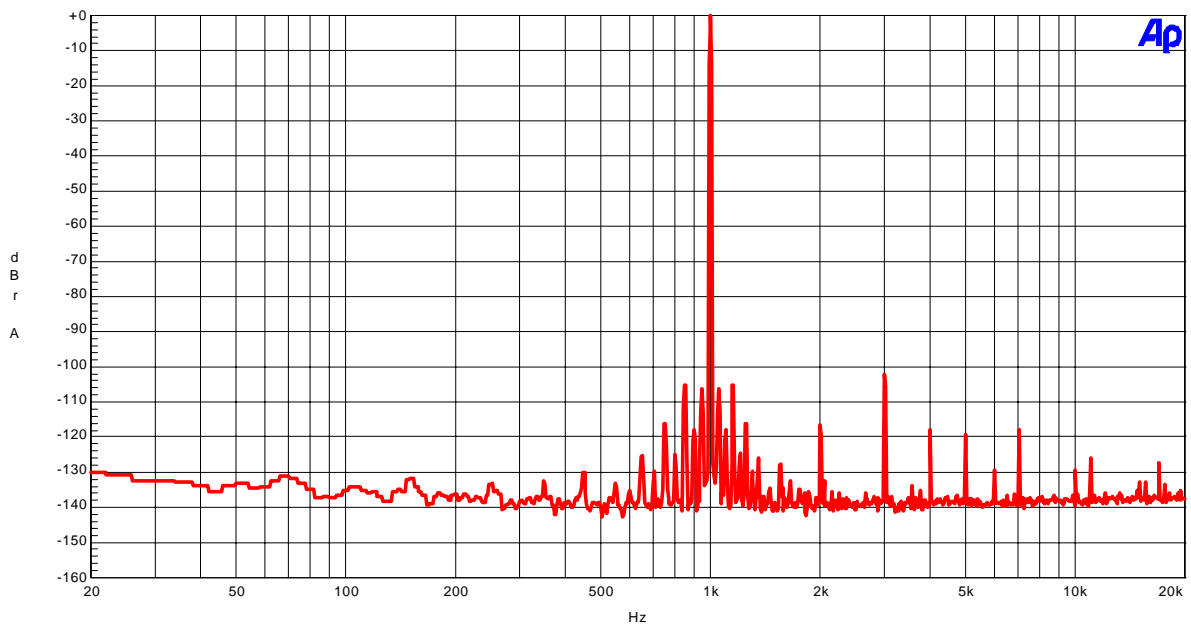

Figure 11. FFT (fs=44.1kHz; 1kHz, 0dBFS input)
- Figure 11. FFT (1kHz, 0dBFS input)